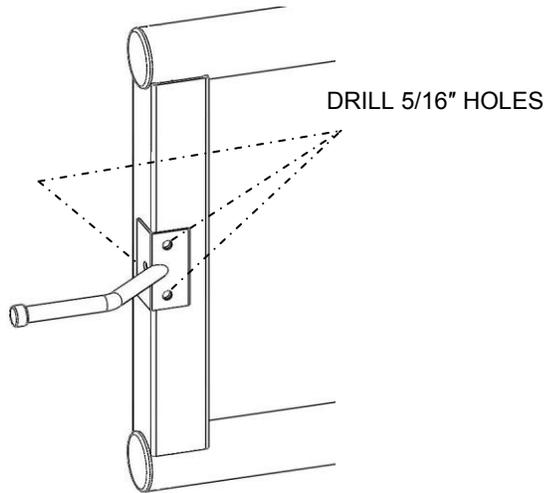
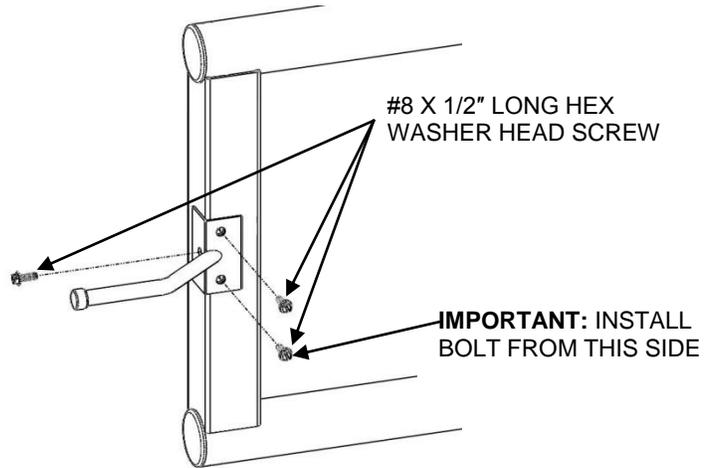

**FIG. 6.28**
**FIG 6.29**
- 6.10.2. Position the gate hinge against the vertical handrail post. Position the hinge vertically so the top of the gate is even with the top of the handrail and so that the edge of the hinge is flush with the edge of the vertical handrail post. Mark holes with pencil using the holes in the hinge as a template then drill three 5/16" holes through both sides of the vertical handrail tube (FIG. 6.28). Install fasteners through hinge and vertical handrail tube and secure as shown (FIG. 6.29).